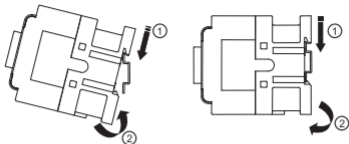

Figure 2 Installation and disassembly methods of HDC3-06 - 38
- The contactor can be installed through screw installation or DIN rail installation. HDC3-06 ~ 38 can be installed by means of 35mm standard DIN rail and HDC3-40 ~ 95 by means of 35mm or 75mm standard DIN rail. Check whether the rated voltage and frequency of the coil are consistent with the control power supply before installation and do not use the contactor in case of damage or unsecure assembly. See Figures 2 and 3 for the installation and disassembly methods.